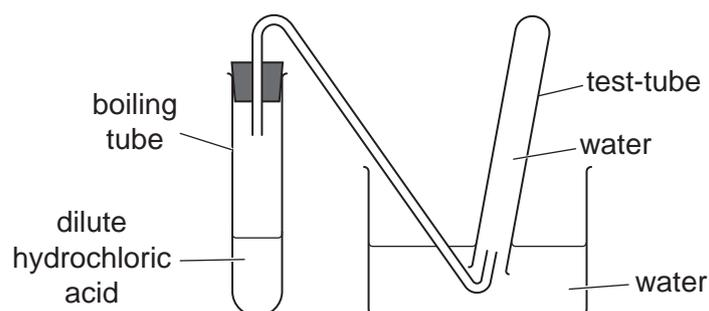

Fig. 4.1
- Set up the apparatus shown in Fig. 4.1.